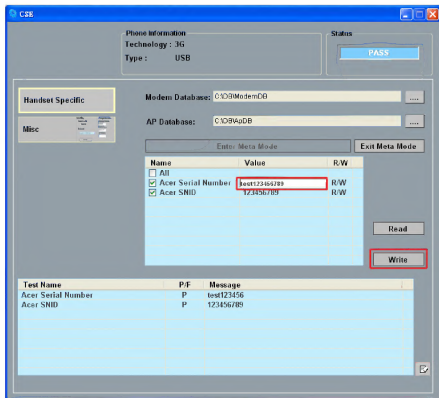

Figure 9. Check Serial Number and double click "Value" field.
1. Check Serial Number feature items , double click Serial Number "Value" field , enter new SN , then click "Write" button. [Figure 9]